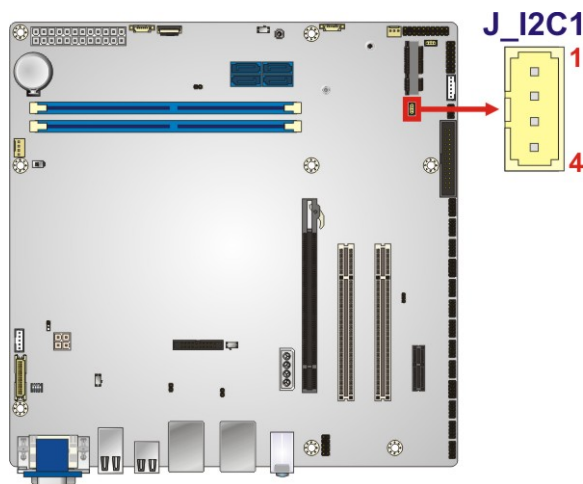

Figure 3-15: I²C Connector Location
- CN Location: See Figure 3-15